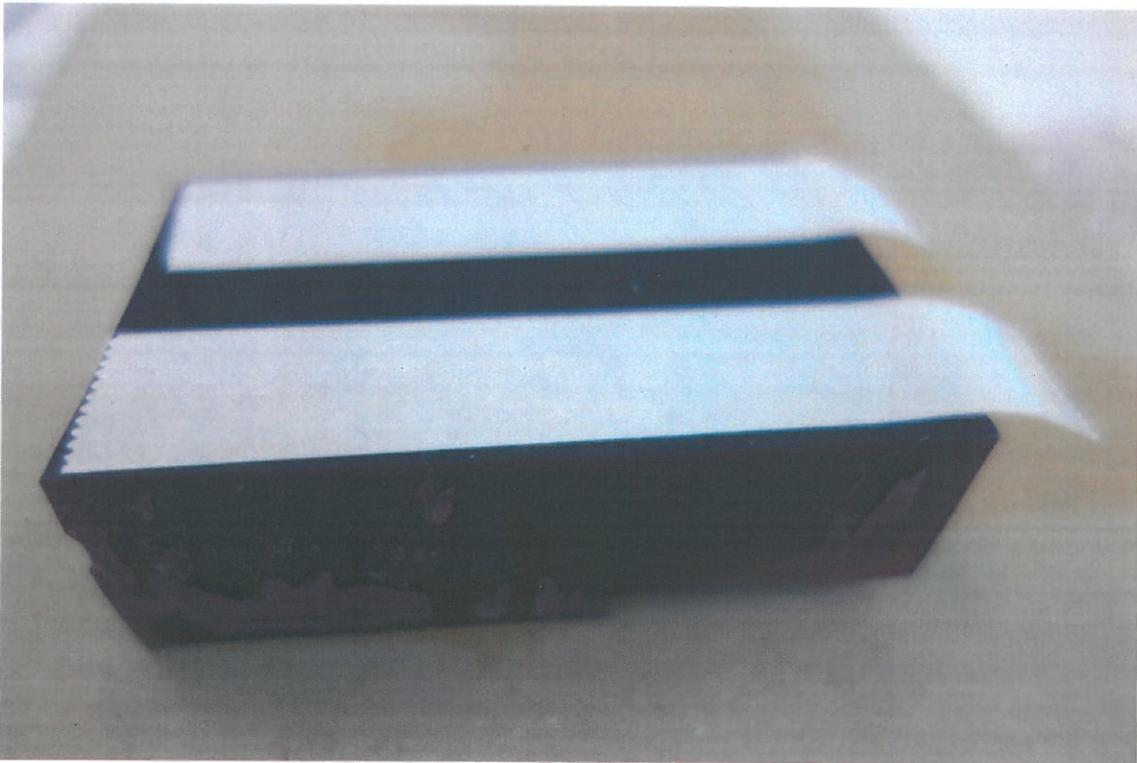

Figure 2: Material with Double-Sided Tape
1. **TAPE** the bottom of the material with double-sided tape (Figure 2).